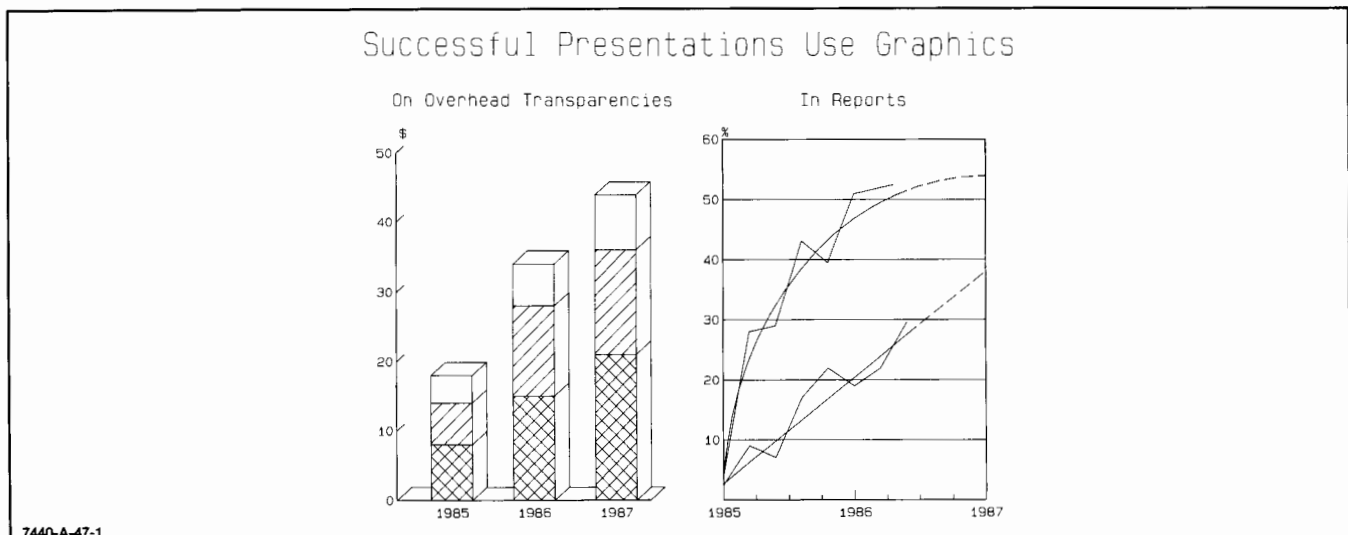

Figure 3-4. Demonstration Plot, without GEC
- e. If the plotter does not have a Graphics Enhancement Cartridge (GEC) installed, compare the demonstration plot to the plot in Figure 3-4. The
two plots should be the same except that the plot in Figure 3-4 has been reduced in size.